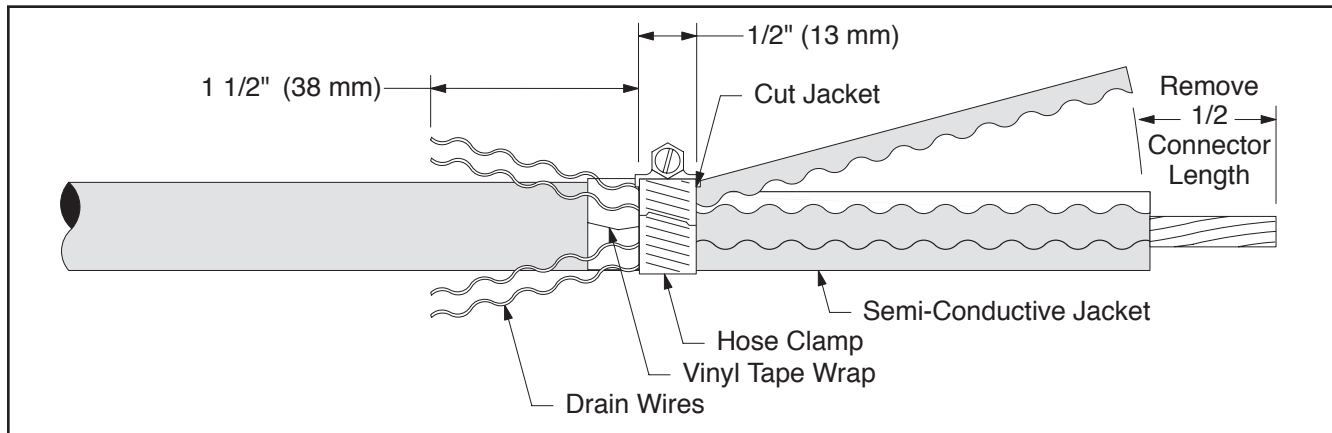

Figure 4
- c. Cut off shield drain wires to a length of 1 1/2" (38 mm) and fold back onto cable (*Figure 4*).
- d. Install hose clamp as shown in (*Figure 4*). On the side of the clamp closest to the cable end cut 80% through cable jacket.
- e. Remove jacket by pulling against hose clamp. **Do not bell semi-con jacket** (*Figure 4*).
- g. Remove cable insulation from cable ends for a distance of 1/2 connector length (*Figure 4*).